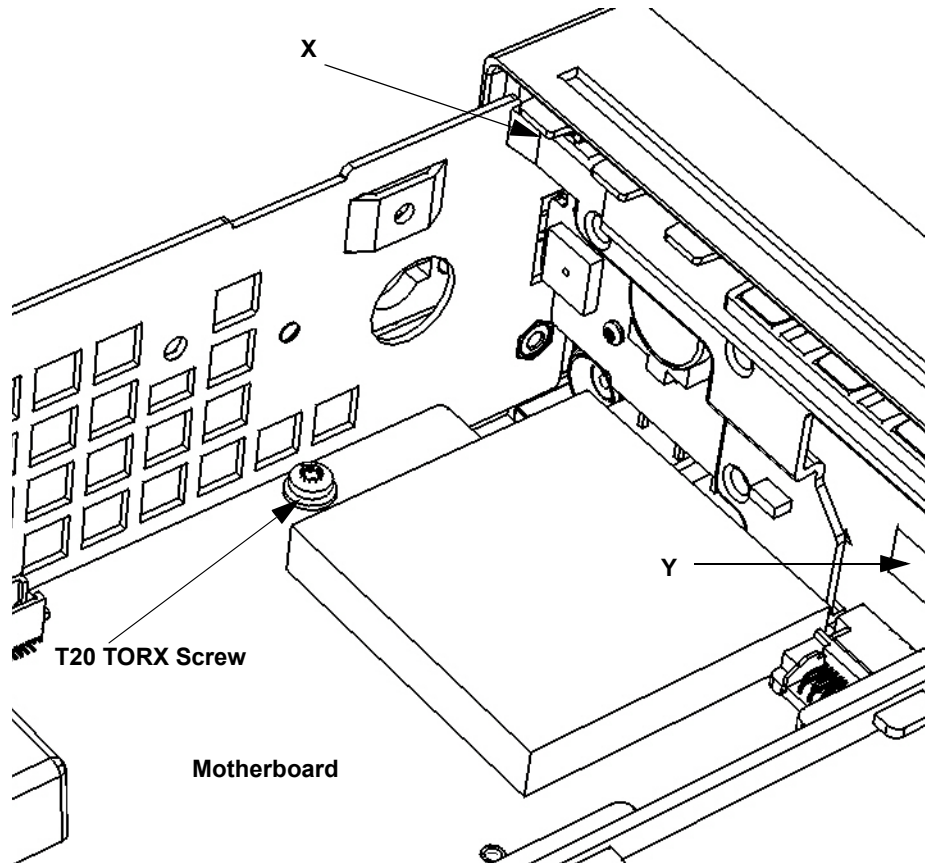

Figure 4-18. T20 TORX Screw on Motherboard
- 5 Turn the counter chassis upright and position the counter as shown in Figure 4-18.**
- 6 Remove the T20 TORX screw on the front left-hand side of the motherboard as shown in Figure 4-18.**
- 7 With your right hand, press in on the plastic tab (X on Figure 4-18) at the top left front of the front panel, while at the same time, use your left hand to press in on the front of the left-hand aluminum chassis side-panel, so that the front of the side-panel overlaps the depressed tab and keeps it depressed.
- 8 On the middle front right-hand side of the front panel, pull the plastic tab (Y on Figure 4-18) carefully toward the rear of the chassis and simultaneously press in the right side panel of the aluminum chassis until the front panel is partially released.